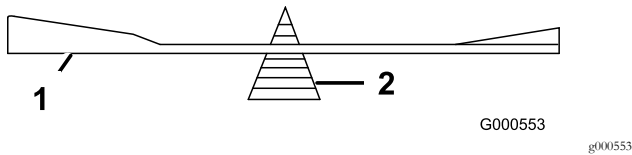

**Figure 64**
1. Use a file to sharpen the cutting edge at both ends of the blade (Figure 64).
**Note:** If the blade is not balanced, file some metal off the end of the sail area only (Figure 64).